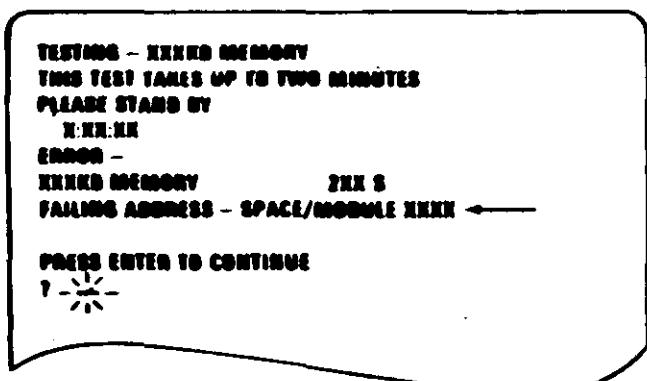

Figure 1. Advanced Diagnostic Error Message
- Note the four-character error code as shown in Figure 1. You will need it for Step 015.